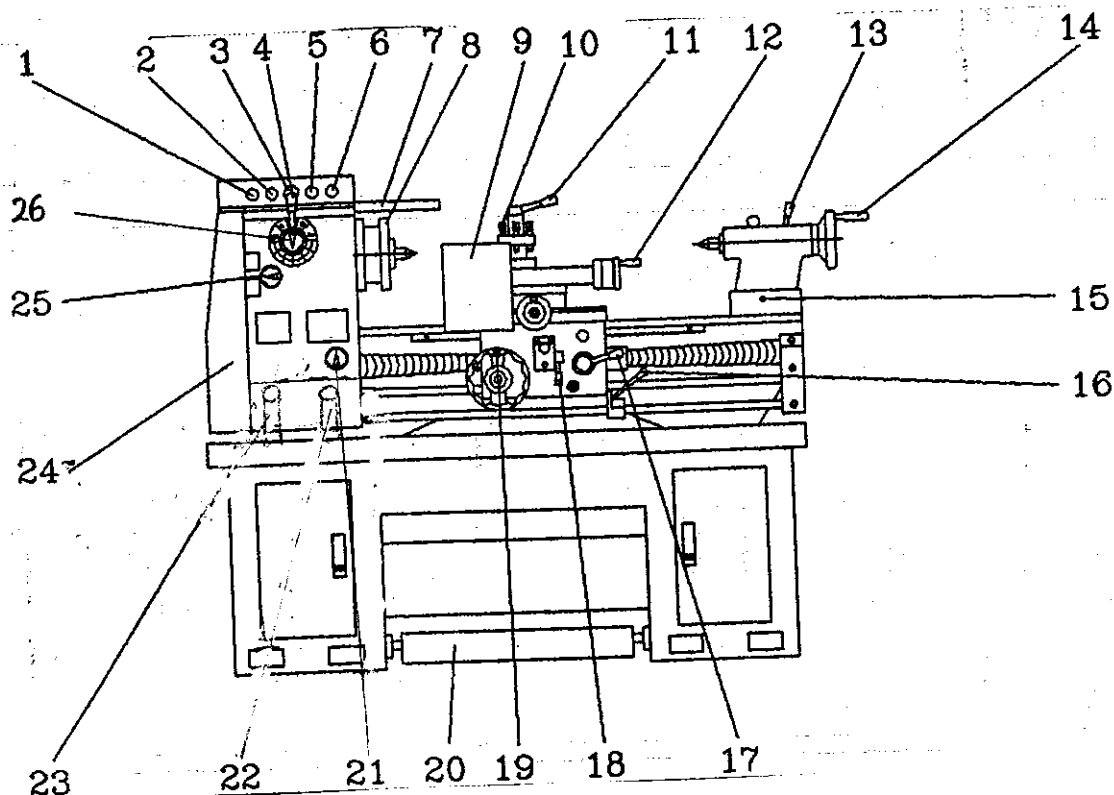

FIG. 6
1. SLIDE THE CARRIAGE NEAR TO HEADSTOCK (FIG. 6 -1).
2. LET CABLE THROUGH THE HANGER (FIG. 6-B), THE OTHER SIDE OF CABLE IS HOOKED UP. (FIG. 6-2)
- (1) RETURN THE SPINDLE CONTROL LEVER TO THE NEUTRAL POSITION. (15 IN FIG., 6)
- (2) PRESS EMERGENCY TO STOP. (5 IN FIG. 6)
- (3) SWITCH OFF THE KEYSWITCH. (4 IN FIG. 6)
- (4) SWITCH MAIN ISOLATR OFF.
PULL THE SELECTIVE KNOB (16 IN FIG. 6) UP, THE MOTOR WILL BE START AND THE SPINDLE WILL GET A FORWARD ROTATION WHILE OPERATING. ON THE CONTRACT, PUSH DOWN THE SELECTIVE KNOB THE MOTOR WILL BE START AND THE SPINDLE WILL GET A REVERSE ROTATION WHILE OPERATING.
TURN THE SELECTIVE KNOB (25 IN FIG. 6) TO RIGHT POSITION, THE LEAD SCREW WILL GET A COUNTERCLOCKWISE ROTATION OR THE FEED ROD WILL GET A CLOCKWISE ROTATION WHILE OPERATING. ON THE CONTRARY, TURN THE SELECTIVE KNOB TO LEFT POSITION, THE LEAD SCREW WILL GET A CLOCKWISE ROTATION OR FEED ROD WILL GET A COUNTERCLOCKWISE ROTATION WHILE OPERATING.
FEEDS / THREADS CHANGE KNOB (21 IN FIG. 6) IS FITTED WITH THE COVER OF GEAR BOX. TURN THE CHANGE KNOB TO RIGHT POSITION, FEED ROD WILL TURN FOR FEEDING AUTOMATICALLY. TURN THE CHANGE KNOB TO LEFT POSITION, THE LEAD SCREW WILL TURN, THREADS IS READY.
PUSH THE HALF NUT LEVER (17 IN FIG. 6) DOWN WHEN THE LEAD SCREW IS REVOLVING TO ENGAGE THE HALF NUT FOR THREADING. PULLING THIS LEVER UP WILL DISENGAGE THE HALF NUT.
THIS IS A THREE POSITION CONTROL WITH THE MIDDLE POSITION AS NEUTRAL. PUSH THE LEVER 18 IN FIG. 6) DOWN TO ENGAGE THE CROSS FEEDS AND LIFT UP TO ENGAGE THE LONGITUDINAL FEEDS.